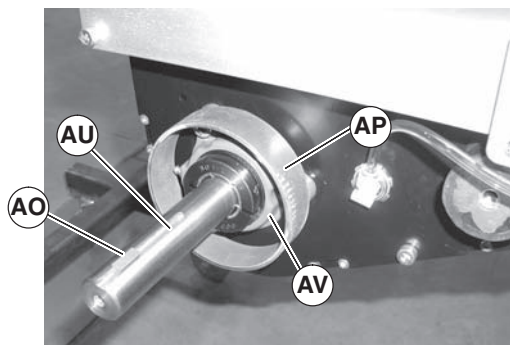
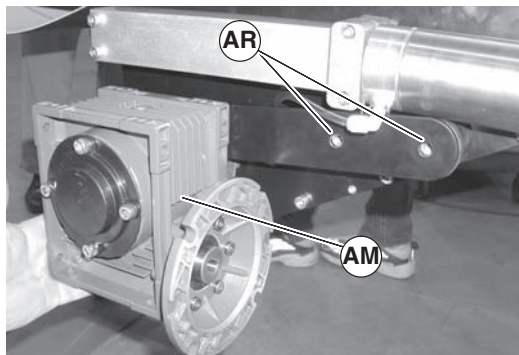

Figure 19
Figure 21
3. Install key (Figure 19, item AO) on drive shaft(AU).
5. Slide gearmotor (Figure 21, item AM) on to drive shaft (Figure 19, item AU). Tighten mounting screws (AR) to 200 in-lbs (22.5 N-m).